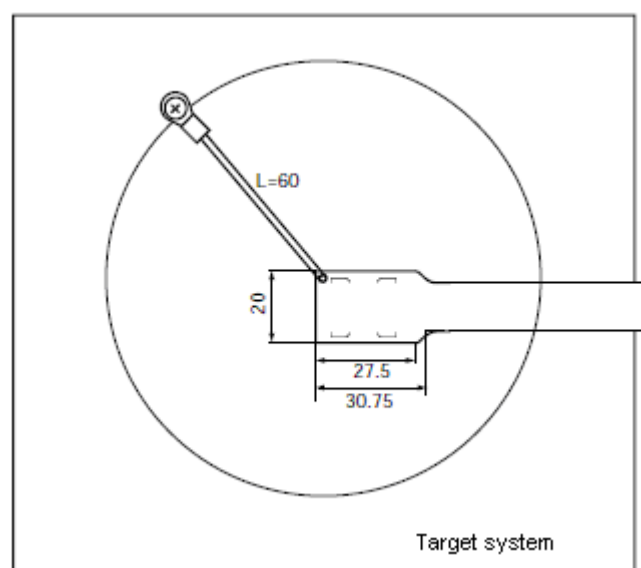

Figure 2-9 Where GND Wire Can Be Connected
- <5> Since the length of the GND wire below the head (insulated part) is approximately 60 mm, there must be a GND to which it can be connected to within the range of the two approximately 60 mm radius sections of the target system for connecting the emulation probe, as shown in Figure 2-9.